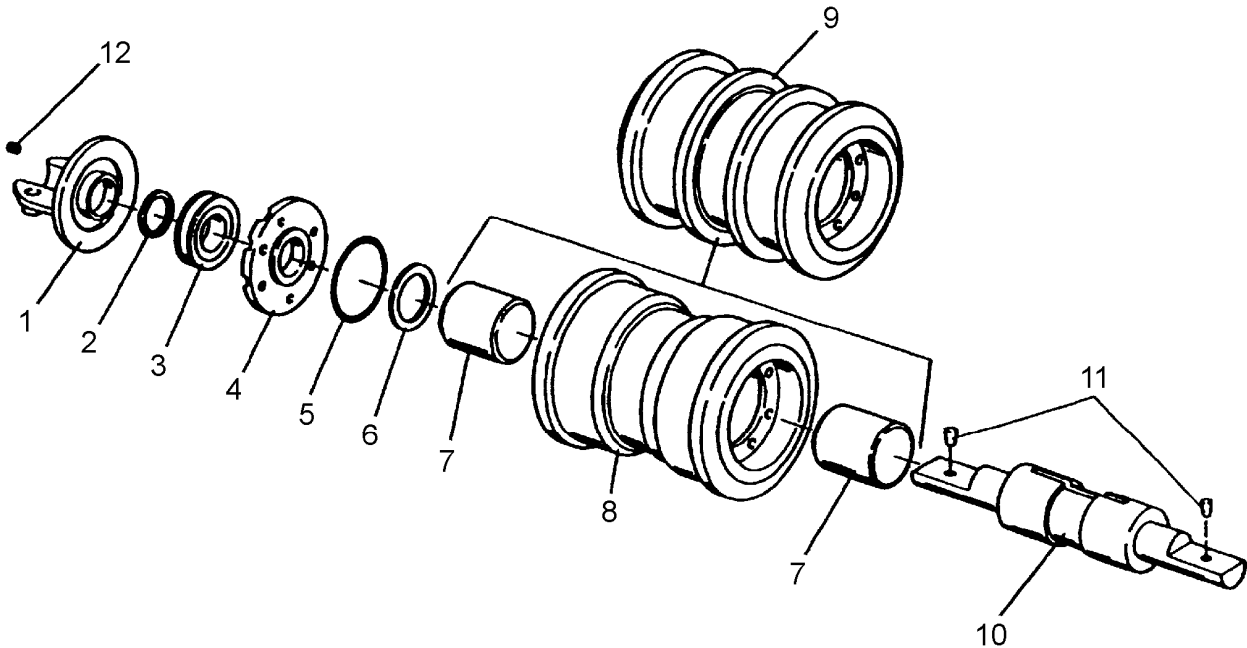

Fig. 14.23. Exploded View of Track Roller
26. DISASSEMBLY (Refer to Fig. 14.23)
28. REASSEMBLY (Refer to Fig. 14.23)
8. Fill roller with recommended lubricant, refer to OPERATOR'S MANUAL for recommended lubricant. Clean threads of plug (12, Fig. 14.23) and apply LOCTITE Pipe Sealant with Teflon #592. Install plug in bracket (1) and torque to 21 - 55 [Nm].